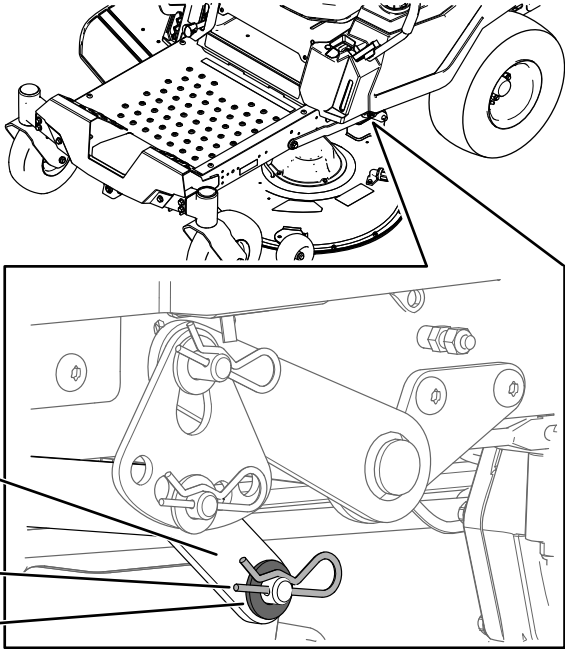

Figure 73
- On 1 side of the machine, remove the washer and hairpin cotter from the deck pin (Figure 73).
- Remove the lift arm from the deck pin (Figure 73).
- On 1 side of the machine, lift the rear of the mower deck and install the lift arm to the deck pin (Figure 73).
- Install the lift arm using the washer and hairpin cotter (Figure 73).